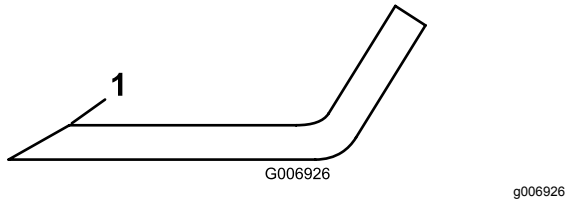

Figure 66
5. Inspect the cutting edges of all blades. Sharpen the cutting edges if they are dull or nicked. Sharpen only the top of the cutting edge and maintain the original cutting angle to make sure that it is sharp (Figure 66).
6. If dull or nicked, sharpen only the top cutting edge while maintaining the original cutting angle (Figure 66).